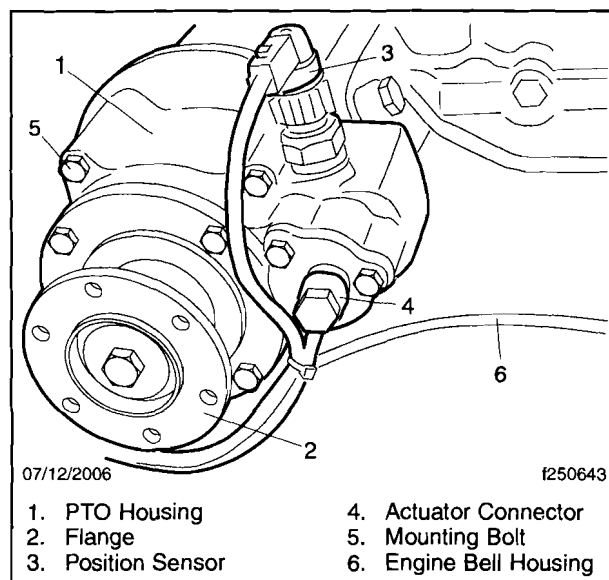

Fig. 2, N05 PTO
6. If the vehicle has an N05 (rear engine) PTO, it is necessary to remove the PTO from the engine before proceeding. Remove the PTO drive-shaft shield, PTO driveshaft, and N05 PTO. The N05 PTO has one air line, one electrical connection, and five bolts. Clean the mating surfaces and check the O-ring seal before reinstalling the N05 PTO. Apply Loctite and torque the nuts to 30 N·m (22 lbf·ft). See Fig. 2.